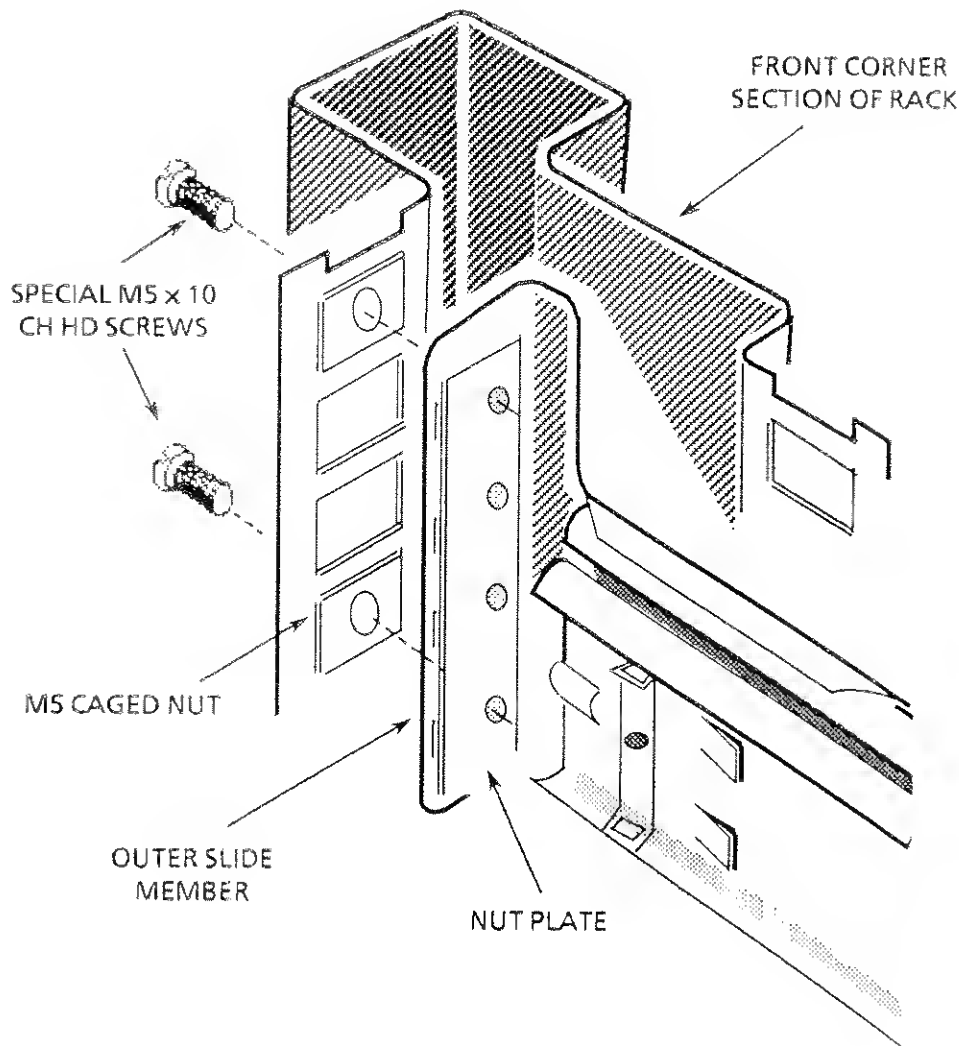

Fig 2.11 Fitting the outer slide members into the rack.
5. Fit the outer slide members to the rack, as shown in Fig 2.11.